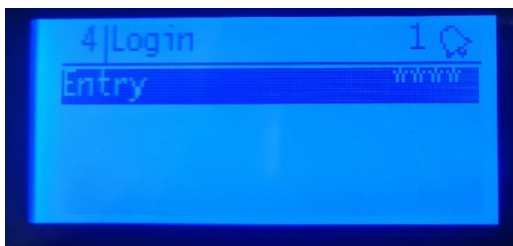

Figure no. 14
- After holding the Enter button for 3 seconds you will see figure no. 14 as shown below. Press **Enter** one more time.